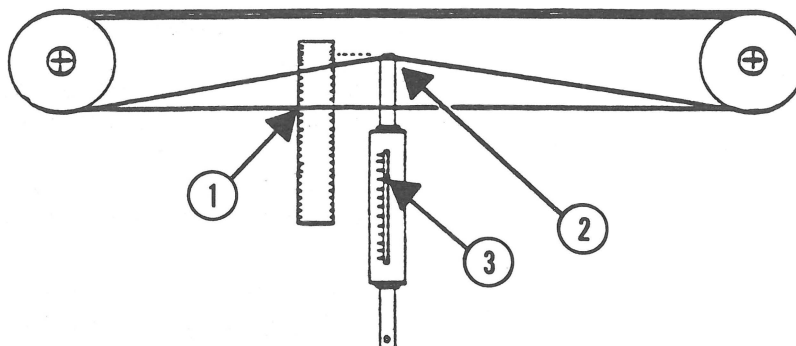

FIGURE 32
23. Lay a ruler under the front edge of the carrier wire (use the rear edge for the 15-Inch ImageWriter), and visually mark the point where the carrier wire crosses the ruler (Figure 32, #1). With the carriage assembly at the far left, push the carrier wire at its center with a tension gauge (Figure 32, #2).
24. When the wire has been pushed $\frac{3}{8}$ of an inch away from its original position, check the tension gauge (Figure 32, #3). It should read 1 lb. If it doesn't, adjust the screw of the tension arm and recheck.